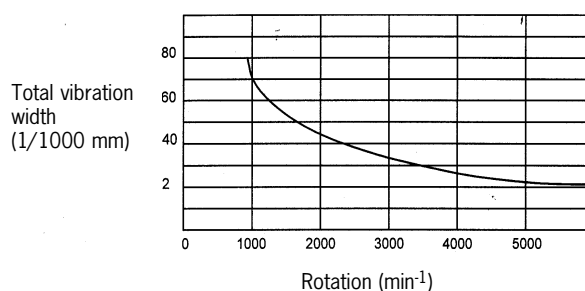

Fig. 4
- (1) Pressure or current variations, abnormal vibration or noise are signs of malfunction. Refer to Troubleshooting and make necessary repairs as soon as possible. We recommend that you keep a record of daily operating conditions so that you will be able to detect early signs of trouble.
- (2) The maximum allowable bearing operating temperature should not exceed 80 °C.
- (3) There should be no leakage if shaft sealing mechanical seal is normal. Replace entire seal if there is leakage. Gland packing leakage should be kept down to a steady drip or trickle (approx. 20 ml/min.) Do not tighten excessively or unevenly, or when pump is stopped.
- (4) Fig. 4 indicates the normal level of vibration when installation and piping are correct. Excessive vibration may be due to conditions such as *15 (incorrect centering,) defective piping or loose foundation bolts. Inspect carefully.